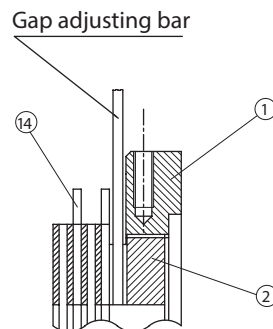
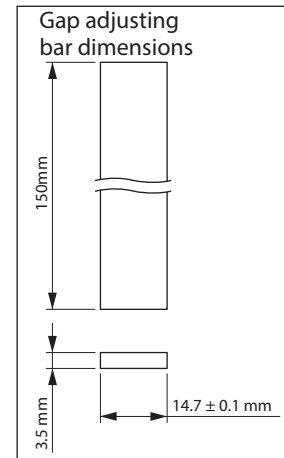

Figure 8-36
Figure 8-37
- (3) Insert the gap adjusting bar (customer to prepare an angle plate. See Figure 8-37) from between the outer disc [14] and the center ring [1] into a hole for a gap adjusting screw [2]. Rotating to the left as seen from the field [4] side, will narrow the gap. (See Figure 8-36)
- (4) Six attachment bolts [3] and lock bolts [11] alternately pass through the space between the outer disc [14] and the center ring [1]. Rotating the gap adjusting bar will contact these bolts. There are 8 equally distributed holes for gap adjusting screws [2]. Adjust the gap G to the required value by repeating (3) each time the gap adjusting bar contacts a bolt.
- (5) Select the point where hole and screw hole are closest to the required gap and attach the stopper [16] there.
- (6) After returning the manual brake release to its original state, turn power on and off to check brake action.
- (7) Attach the brake cover [22], V-ring [23], fan [7], fan set screw [10], cover [8] and outdoor cover [25]. At this time coat the fan set screw [10] with Three Bond TB2365.